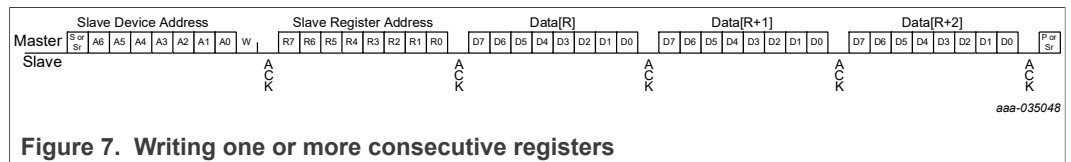

Figure 7. Writing one or more consecutive registers
- Figure 7 provides an illustrative example where the master chooses to write to three consecutive registers starting with register "R".